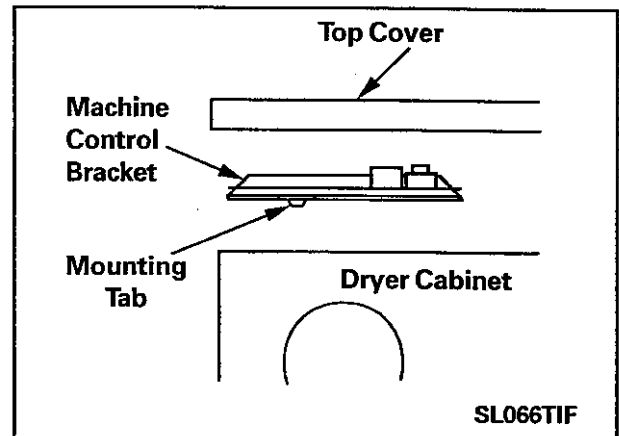

Figure 9-8
6. Raise machine control board bracket to disengage the locating tab on the bracket from the locator notch in the dryer cabinet flange (**Figure 9-8**).